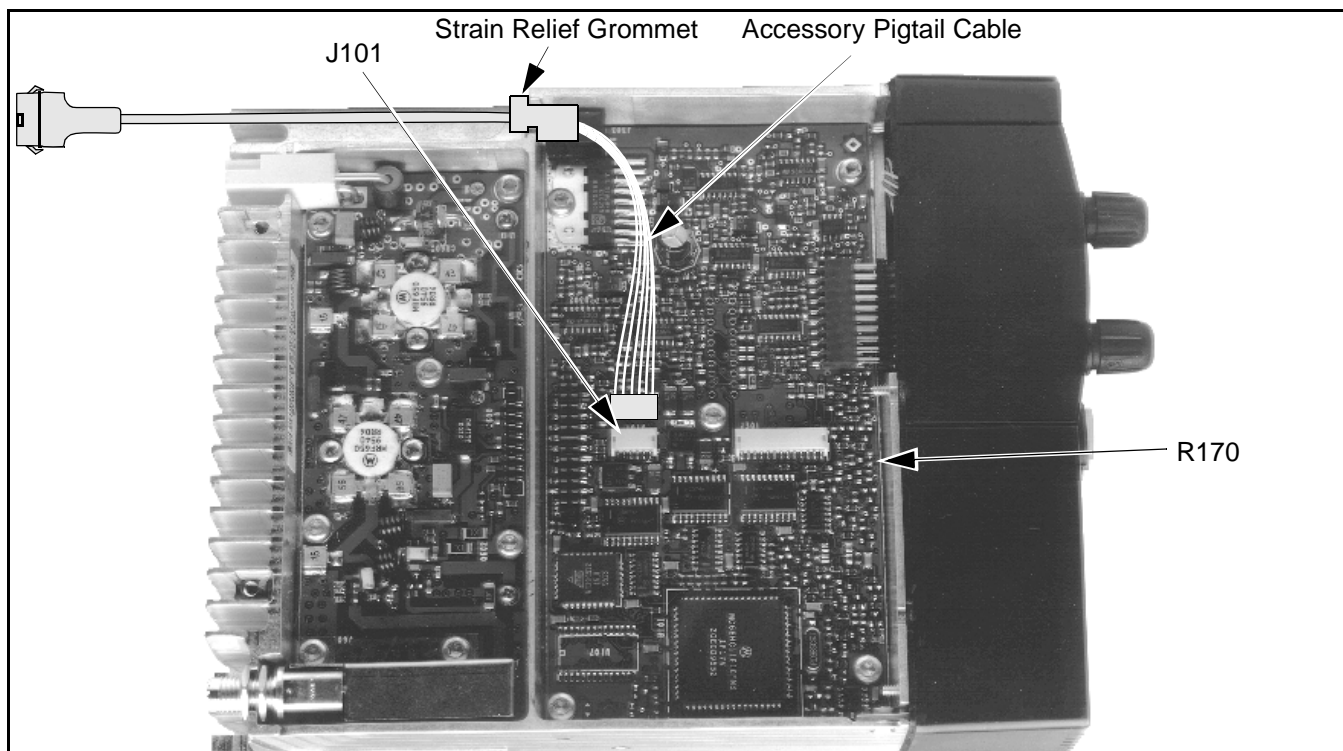
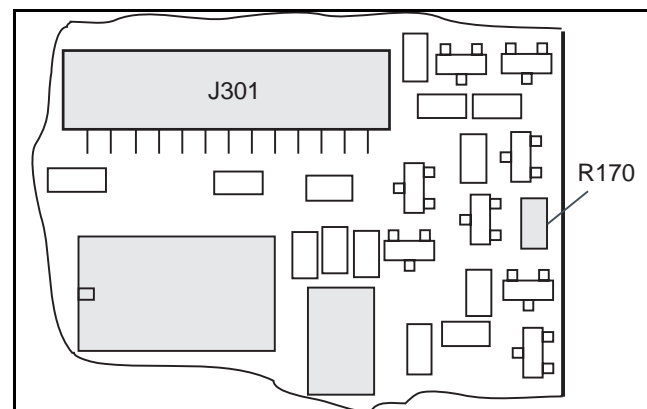

Figure 2-3 Accessory Cable Installation
Figure 2-5 R170 Location Diagram
2. Plug the pigtail cable from the kit into J101 as shown in Figure 2-3. The plug can be inserted only one way.
3. Position the strain relief in the external speaker jack slot of the chassis (see Figure 2-3).
When the ignition sense function is used, resistor R170 on the audio/logic board must be removed. The general location of this resistor is shown in Figure 2-3, and the exact location is shown in Figure 2-5. Carefully remove R170, taking care not to damage board traces or adjacent components.